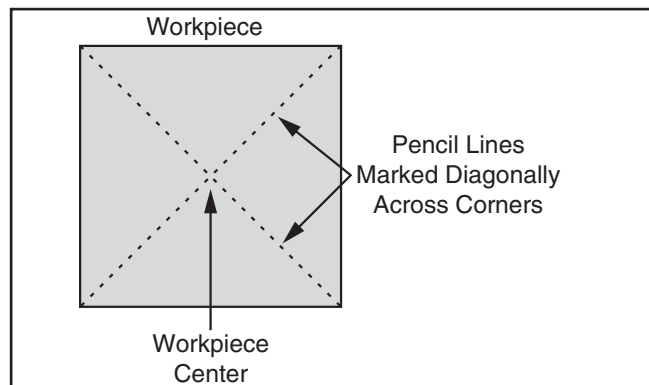

Figure 73. Workpiece marked diagonally from corner to corner to determine the center.
1. Find center point of both ends of your workpiece by drawing diagonal lines from corner to corner across end of workpiece, as shown in **Figure 73**.